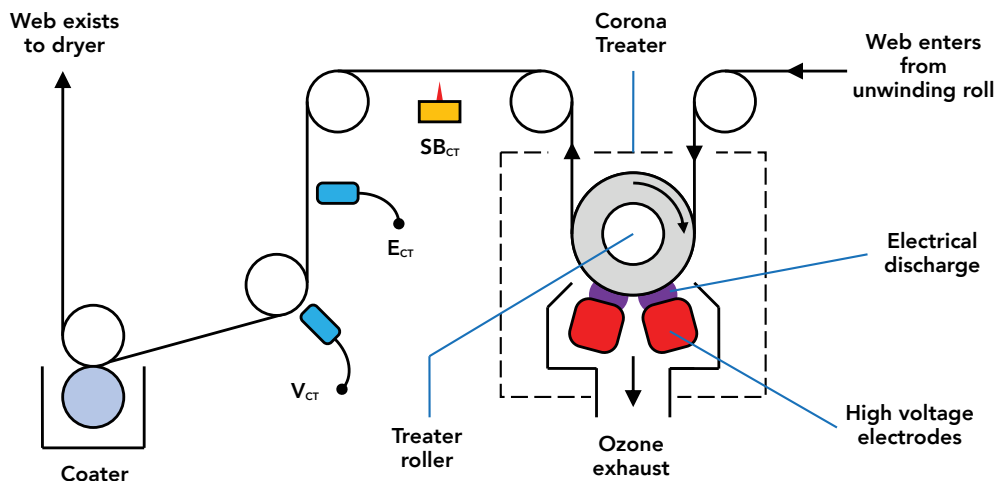

Figure 1: The corona treatment before coating improves wettability and increases adhesion.
Figure 1 is a chemical reactor that uses an electrical discharge to modify the chemistry of the treated surface. Treaters are often used before lamination to improve adhesion and before coating to improve wettability and adhesion. Corona treaters incorporate oxygen species into the treated
The corona treater in Figure 1 produces two, unwanted by-products; ozone in the air and static on
– A corona treater in Figure 1 has two electrodes that provide the high voltage needed to form the electrical discharge. The high voltage (7 – 15 KV) at roughly audio frequency (5 – 30 KHz) forms an electrical discharge between the electrodes and the nearby treater roller. The electrodes surfaces may be bare metal or ceramic.
2. Power Supply – A power supply (not shown in Figure 1) converts 60 Hz electrical power into the high frequency, high voltage power needed by the corona treater. These power supplies are designed to deliver large amounts of power (5 – 25 KW). A typical, industrial scale, corona treater consumes about as much power as a residential house.
The best practice is to install powered static bar SB_{CT} in Figure 1 on the web exiting the corona treater facing the treated surface. While a passive static dissipator such as a tinsel strand may be used, I recommend using a powered static bar so that the web entering the coater is as charge-free as possible. Passive static dissipators always leave a low level of static on the web.
Take two static readings to verify that static is well controlled on the web exiting the corona treater before entering the coater. Use an electrostatic fieldmeter to measure E_{CT} in Figure 1 on a web span exiting powered static bar SB_{CT} . Exiting a powered static bar, reading E_{CT} should not exceed ± 2 KV/in.
Use an electrostatic voltmeter to measure V_{CT} in Figure 1 when the web exiting the corona treater is wrapped on a grounded, metal idler roller such as a hard-coated aluminum idler roller. While I have shown V_{CT} in Figure 1 being taken on the treated surface, it is OK to take reading V_{CT} on the back, untreated surface, if this is safer or more convenient. Reading V_{CT} should not exceed ± 10 V/mil (± 0.4 V/mm) of web thickness. For example, for a 2 mil (50 mm) thick web, reading V_{CT} should not exceed ± 20 V.